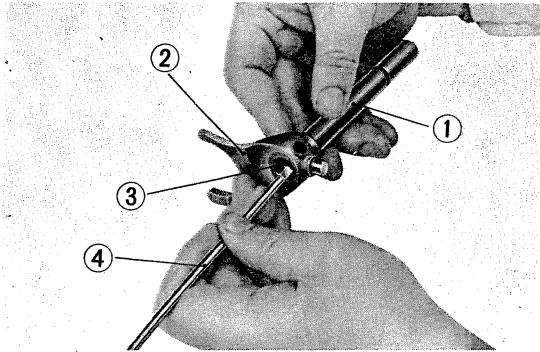

Fig. 91 ① Shift fork guide shaft ② L. shift fork ③ 4×10 roller ④ Screwdriver
1) Assemble right gear shift fork on the gear shift fork guide shaft. (Fig. 91)